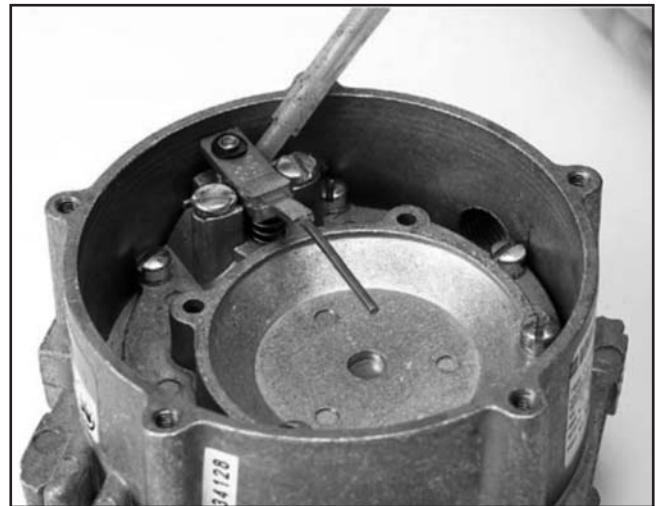

**Figure 3-26. Check Primary Pressure Reading**
14. Slowly depress the secondary lever bent tail end until you are able to detect flow out of the secondary orifice. Let the lever then slowly return to the closed position. Observe the primary pressure reading on the installed gauge. It should be between 0.8 and 2.5 psi. If it is not, recheck your work in the primary fuel section. See Figure 3-26.